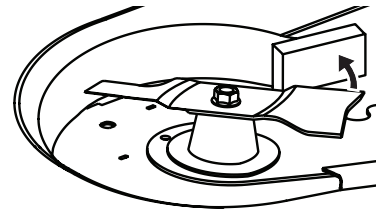

Figure 62
1. Secure the blade from turning counter-clockwise during service by placing a block of wood between the blade and the deck housing (Figure 62), or wrap a rag around one end of the blade and wear heavy gloves to grasp the blade firmly.